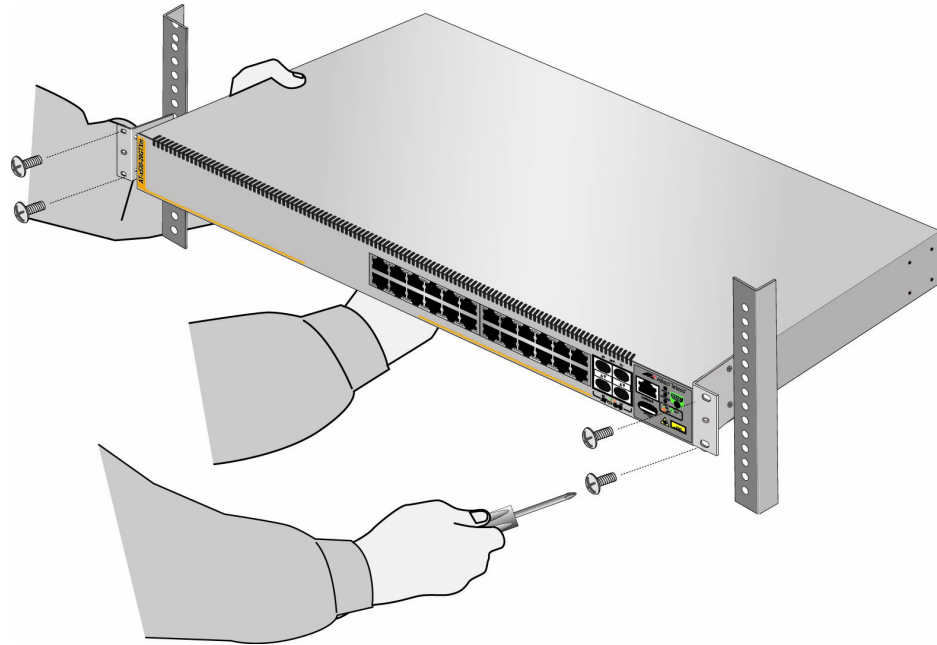

Figure 28. Installing the Switch in an Equipment Rack
3. Have another person hold the switch at the desired location in the equipment rack while you secure it using four standard equipment rack screws (not provided). Refer to Figure 28.